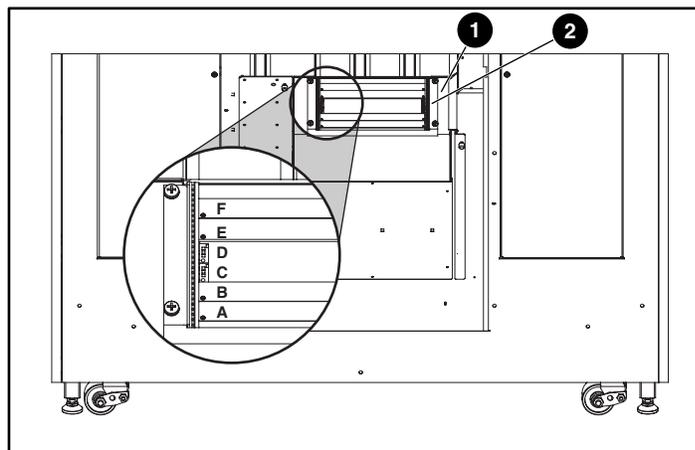

Figure 8: Installing the expansion cage
4. Lower the expansion cage into the electronics bay onto the guide pins, which are on the PCI backplane. Press down evenly on both sides of the card cage until it is firmly seated (see Figure 8).